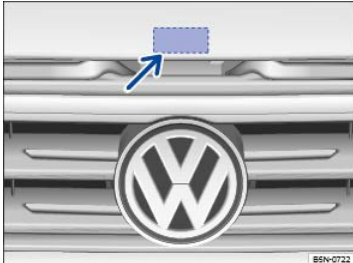

Fig. 181 Above the radiator grille: Outside engine hood release.
- Push the outside hood release lever ⇒ Fig. 181 (arrow) and lift the hood all the way up. A gas-pressure strut will hold the hood up.